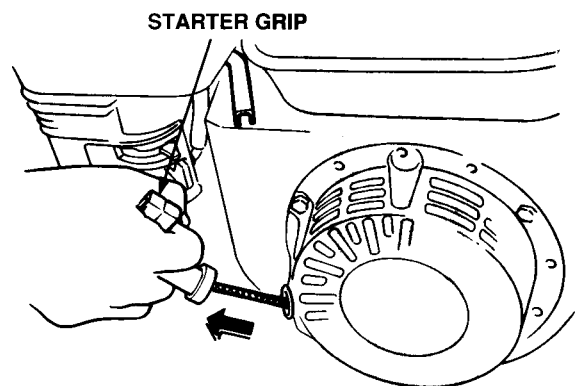

Figure 22. Starter Grip
- Grasp the starter grip (Figure 22) and slowly pull it out. The resistance becomes the hardest at a certain position, corresponding to the compression point. Pull the starter grip briskly and smoothly for starting.